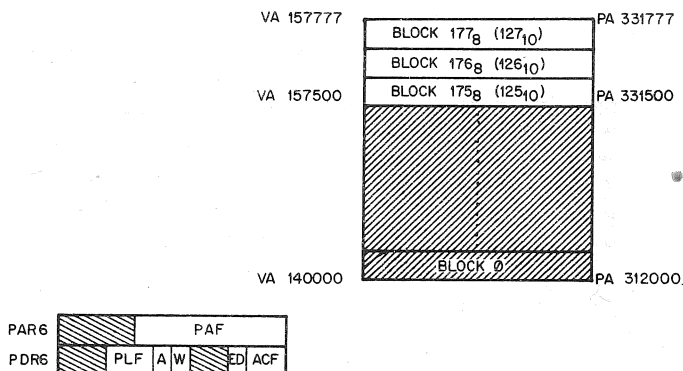

Figure 11-13 Typical Stack Memory Page
locations with lower addresses, when a memory page which contains "stacked" variables needs more room it must "expand down," i.e. add blocks with lower relative addresses to the current page. This mode of expansion is specified by setting the Expansion Direction (ED) bit of the appropriate Page Descriptor Register (PDR) to a 1. Figure 11-13. illustrates a typical "stack" memory page. This page will have the following parameters: